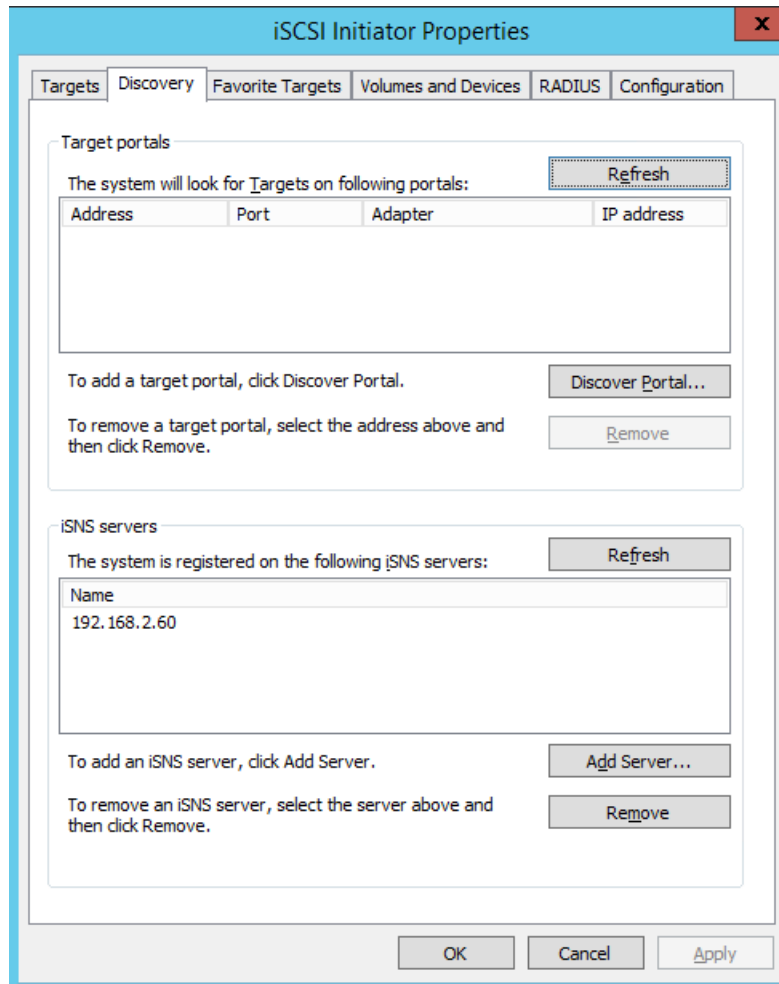

Figure 9-19. iSCSI Initiator—Discover Target Portal
4. On the Discovery page (Figure 9-19) under **Target portals**, click **Discover Portal**.